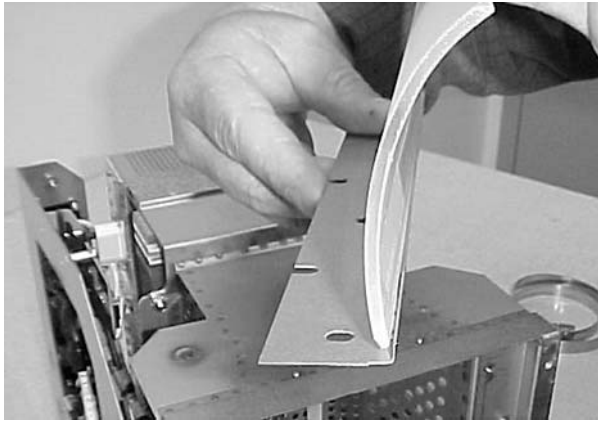

Figure 4-5 Focus Reflector Curve and Retaining Bracket
**Focus Reflectors:** See Figures 4-5 and 4-6. The edge of the reflector sits on the retainer springs on the inside edge of the bracket.